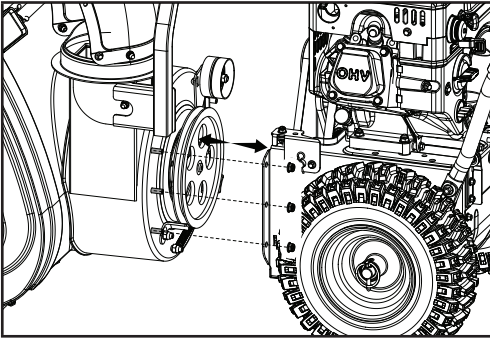

Figure 40
6. Unscrew six M8 nuts to separate the auger housing from the base (Fig. 40).